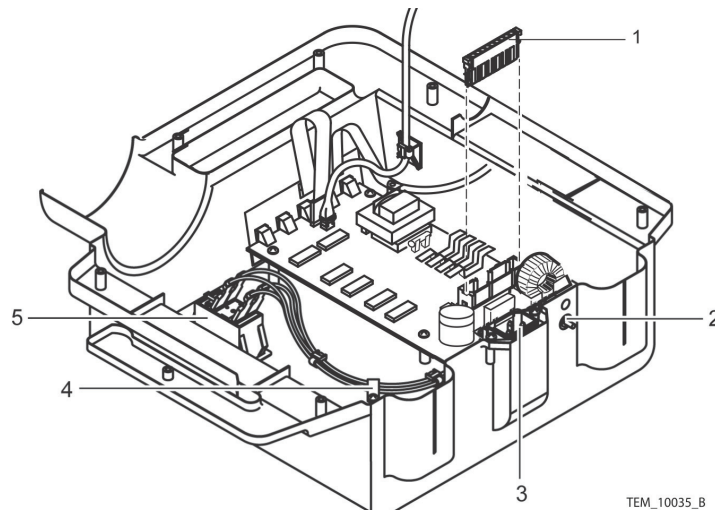
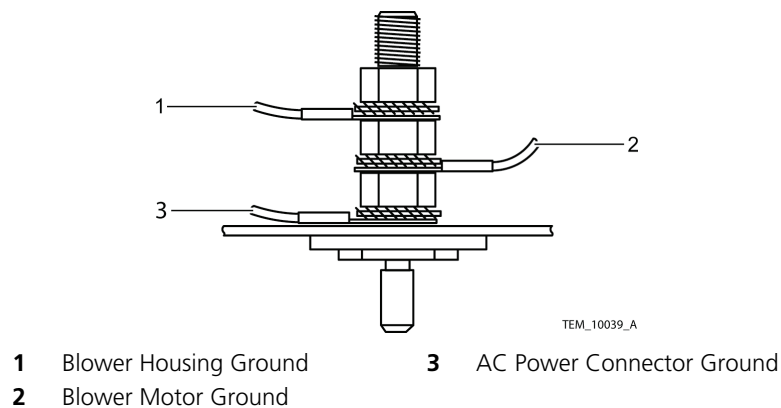

Figure 79. Front Cover Assembly
Figure 80. Equipotential Ground Stud Wiring
44. Connect the four wires to the power switch. Make sure to reconnect the wires in the same way they were connected before; refer to the list of wire colors and where they were connected to the switch, as recorded in Step 14. See Figure 79, item 5.
45. Install the cable clamp around the power switch wires (Figure 79, item 4).
46. Install the AC power connector into the front cover assembly. Tighten the screws to 4 to 6 in/lbs (10 to 15 cm/kg). See Figure 79, item 3.
47. Connect the 9-pin connector to the Control PCB (Figure 79, item 1).
48. Connect the ground wires to the equipotential ground stud (Figure 79, item 2) in the order shown in Figure 80. Tighten the nuts to 36 to 44 in/lbs (91 to 112 cm/kg).